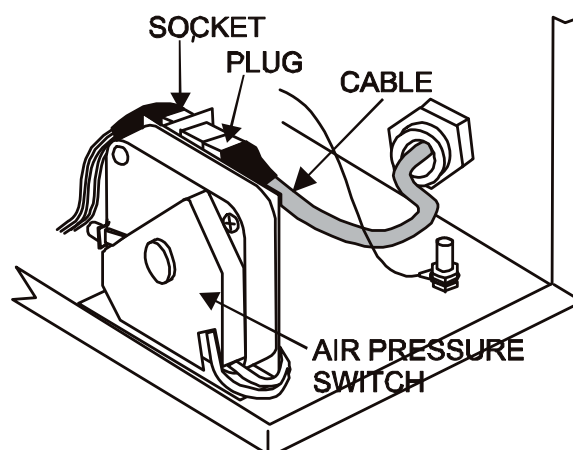

Figure 48
4. Plug the cable into the socket behind the air pressure switch (see **Figure 48**). The plug and socket are keyed and so will only fit together one way – Do not attempt to force the plug into the socket. Ensure that the plug is secured in position by gently pulling the cable.